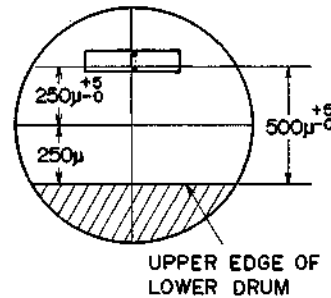
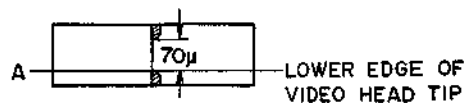

Fig. 4-3
Fig. 4-4
- 2) Adjust the microscope until the upper edge of the lower drum is 250μ below the center of the microscope scale as shown in Fig. 4-3.
- 3) Adjust the head height adjustment screw until the height of the R channel video head (to which red leads are connected) is 250μ as shown in Fig. 4-3. The video head is shown in Fig. 4-4. Be sure to align A with the 250μ level.